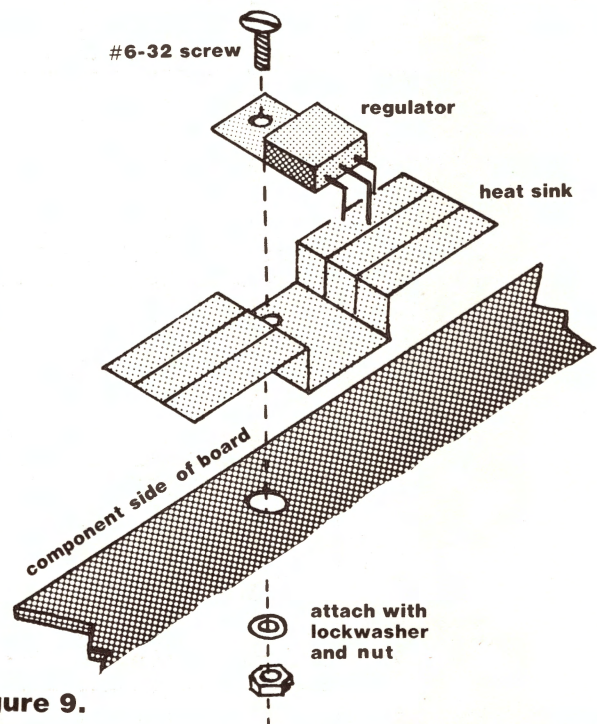

Figure 9.
- ☐ 4. Mount the three regulators and the regulator heat sinks in place. Referring to figure 9, observe that the heat sinks mount on top of the board, and then, the regulators mount on top of the heat sinks. If desired, a small dab of heat sink compound may be added between the regulator cases and heat sinks to improve thermal transfer from regulator to sink. Again referring to figure 9, bend all regulator leads as shown, then bolt the heat sink regulator assemblies into place using the provided nut, bolt, and lockwasher hardware. After these assemblies are in place, solder the regulator leads on the non-component side of the board.